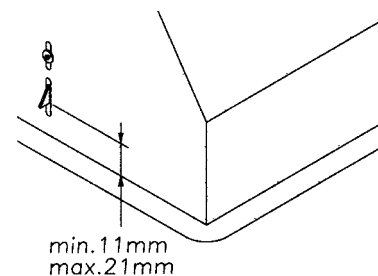

FIG.5
- › Adjust the position of the stop side-springs using the appropriate screws, according to the thickness of the board the appliance will be fixed to (Fig.5).